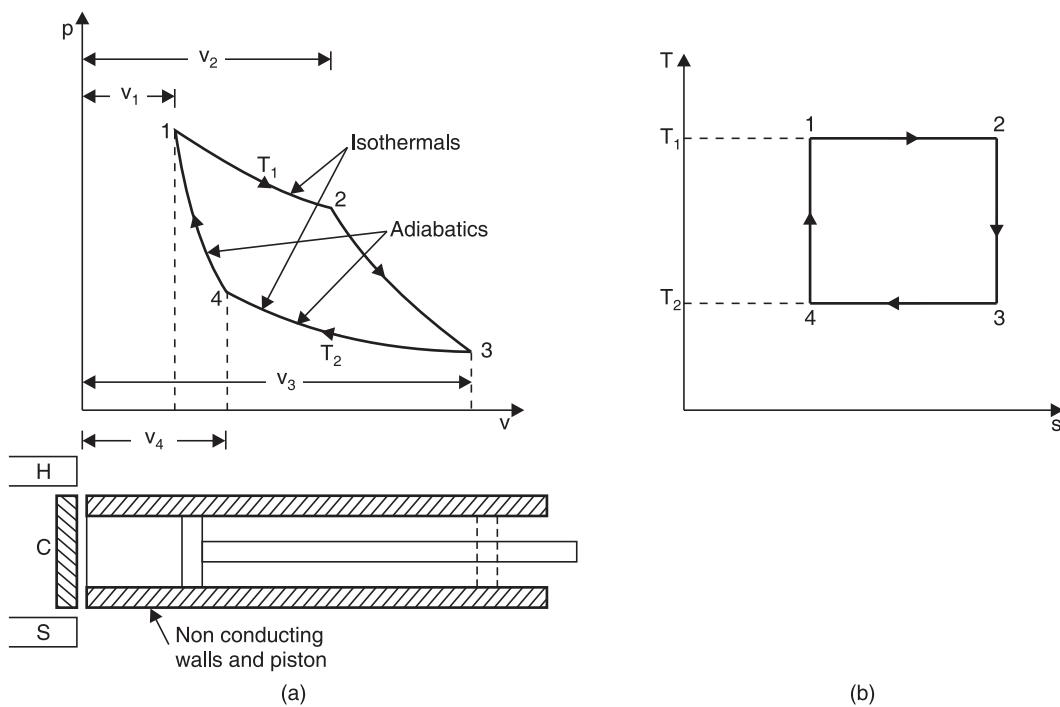

Fig. 4.1
Following are the *four stages* of the Carnot cycle. Refer Fig. 4.1 (a).
**Stage (1).** Line 1-2 [Fig. 4.1 (a)] represents the isothermal expansion which takes place at temperature  $T_1$  when source of heat  $H$  is applied to the end of cylinder. Heat supplied in this case is given by  $RT_1 \log_e r$  and where  $r$  is the ratio of expansion.
**Stage (2).** Line 2-3 represents the application of non-conducting cover to the end of the cylinder. This is followed by the adiabatic expansion and the temperature falls from  $T_1$  to  $T_2$ .
**Stage (3).** Line 3-4 represents the isothermal compression which takes place when sump 'S' is applied to the end of cylinder. Heat is rejected during this operation whose value is given by  $RT_2 \log_e r$  where  $r$  is the ratio of compression.
**Stage (4).** Line 4-1 represents repeated application of non-conducting cover and adiabatic compression due to which temperature increases from  $T_2$  to  $T_1$ .